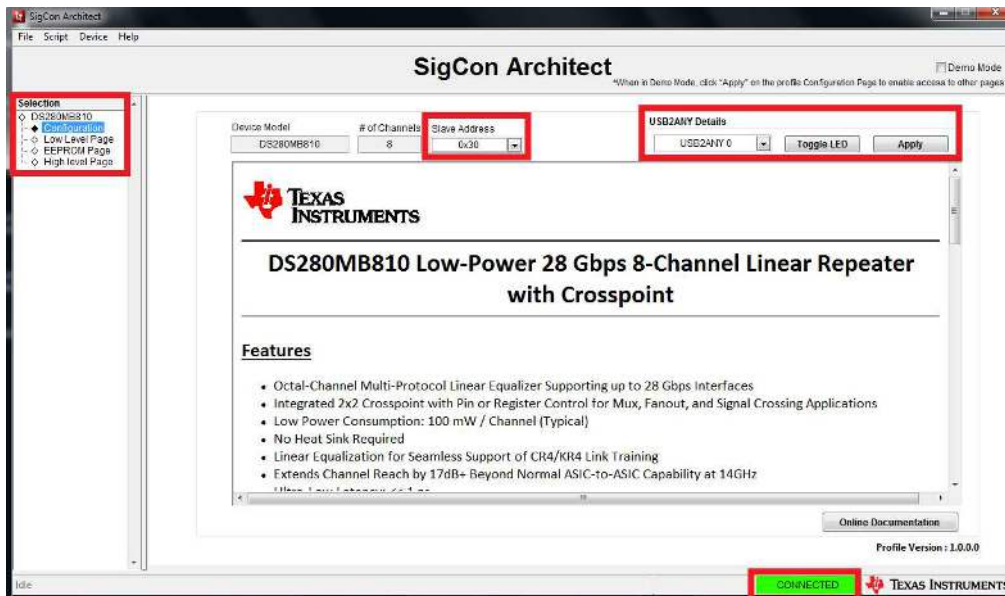

Figure 5. SigCon Architect Configuration Page.
7. Open SigCon Architect, and navigate to the “Configuration” page of DS280MB810 via the “Selection” column. Choose “Slave Address” “0x30” from the drop down menu. Verify the “USB2ANY Details” specify “USB2ANY 0,” and click “Apply.” Successful connection is indicated by the green “CONNECTED” indicator on the bottom of the application, as seen below in Figure 5. Once connection is successfully established, users can read and write various settings to the device in real-time, as described in the following steps.